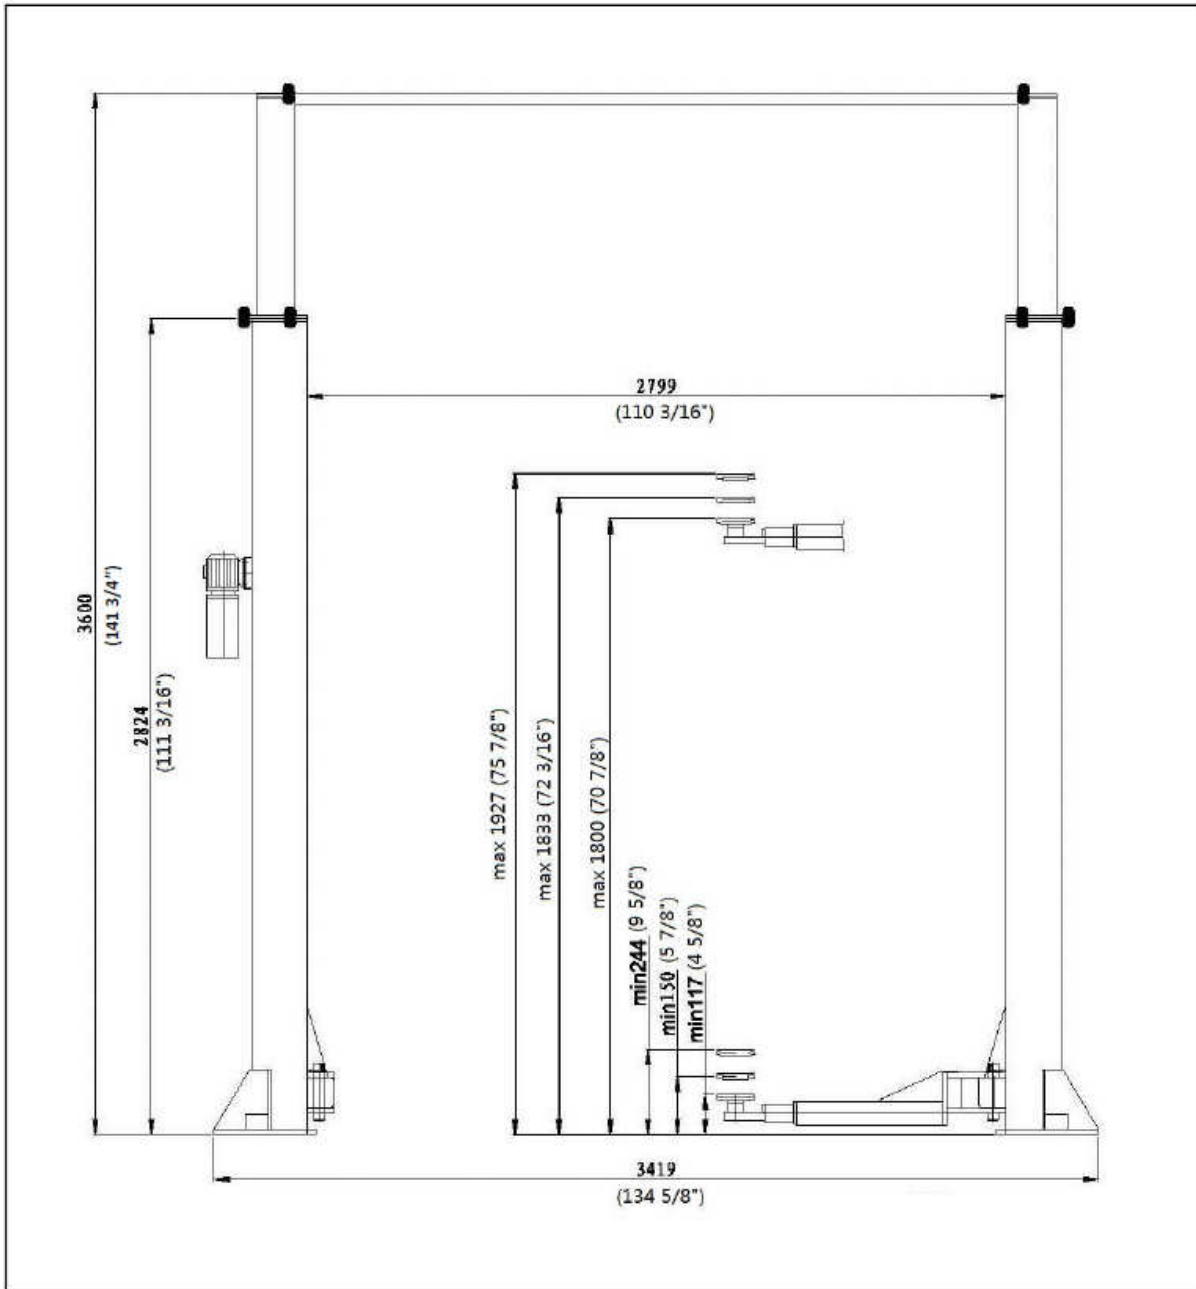

Fig. 4
- OVERHEAD OBSTRUCTIONS: The area where the lift located should be free of overhead obstructions such as heaters, building supports, electrical lines etc (**Fig. 4**).